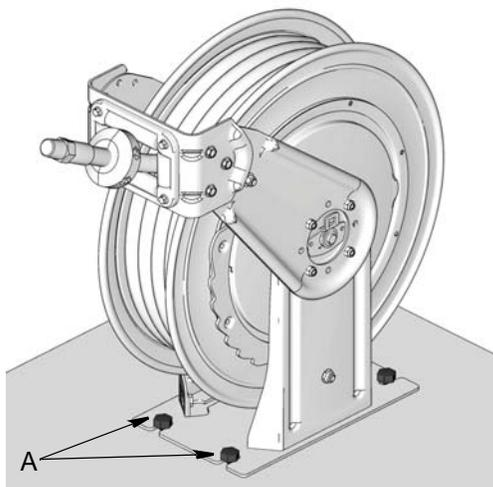

FIG. 3
3. Remove reel from service by removing 4 screws (A) holding reel base to mounting surface (FIG. 3).